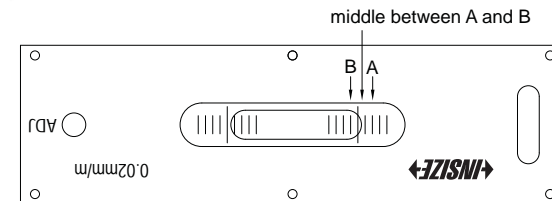

Fig.5
- e) If  $A-B \leq 1$ , the level can be used. If  $A-B > 1$  (in the above example,  $A-B=3$ ), rotate the adjust screw lightly until the bubble moves to the middle between A and B (Fig.5).